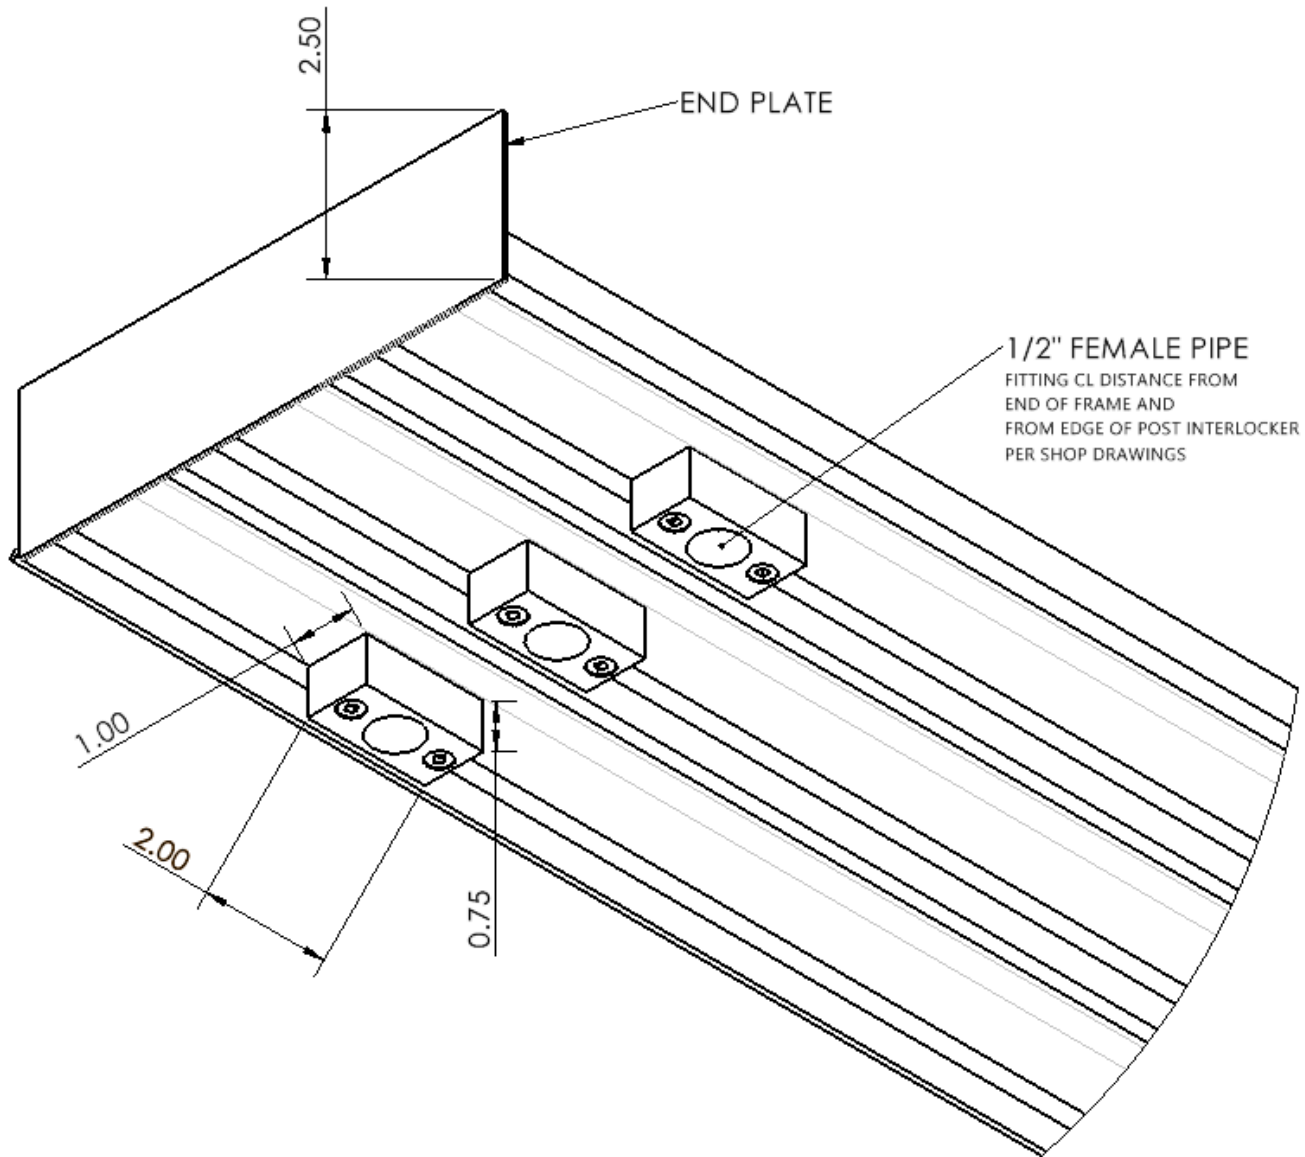

Figure 4
- Bottom Drain Fitting Sill (See **Figure 4**)
NOTE: pocketing doors should not have drain fittings or weeps located in the pocket area of the sill. Be sure to leave adequate clearance for a drain line and fitting for each track. See Figure 4.